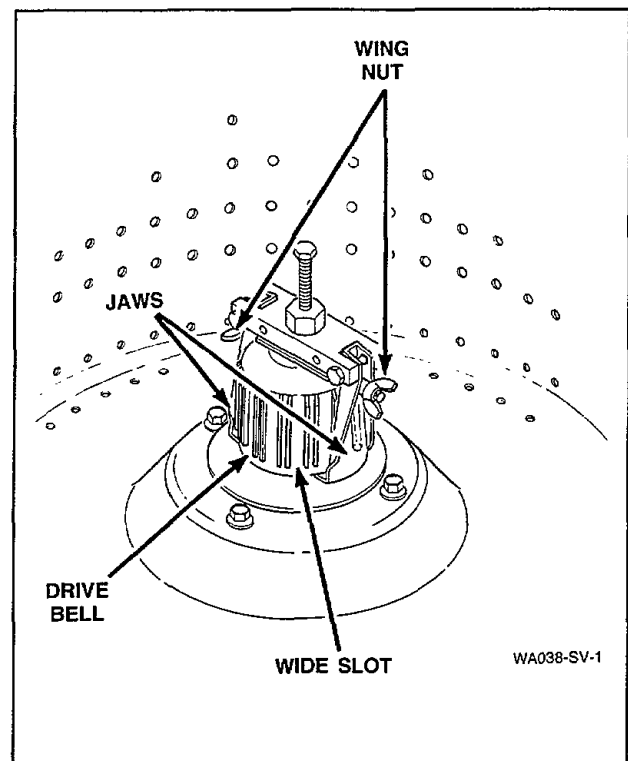

Figure 19
- f. Place the tool over the bell making sure the indent of the jaw lines up with the wide slots on the bell, *Figure 19*.
- h. Place the lip of each jaw under the bottom edge of the drive bell, making sure the indent on the jaw lines up with the wide slots on the bell. Then tighten the wing nuts to hold the jaws firmly against the drive bell, *Figure 19*.